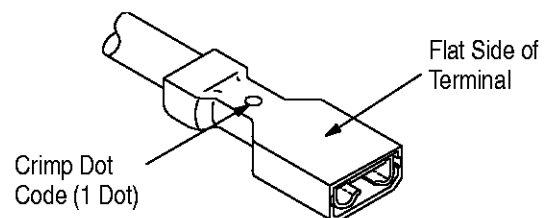

Figure 4
9. Check crimped terminal to ensure that the appropriate crimp dot code appears on the terminal (refer to Figure 1 for code listing). See Figure 4 for a properly crimped terminal with a crimp dot code.